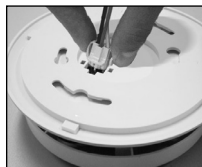

FIGURE 4
- figure 4), making sure that the locks on the connector snap into place. Then push the excess wire back into the electrical box through the hole in the center of the mounting bracket.